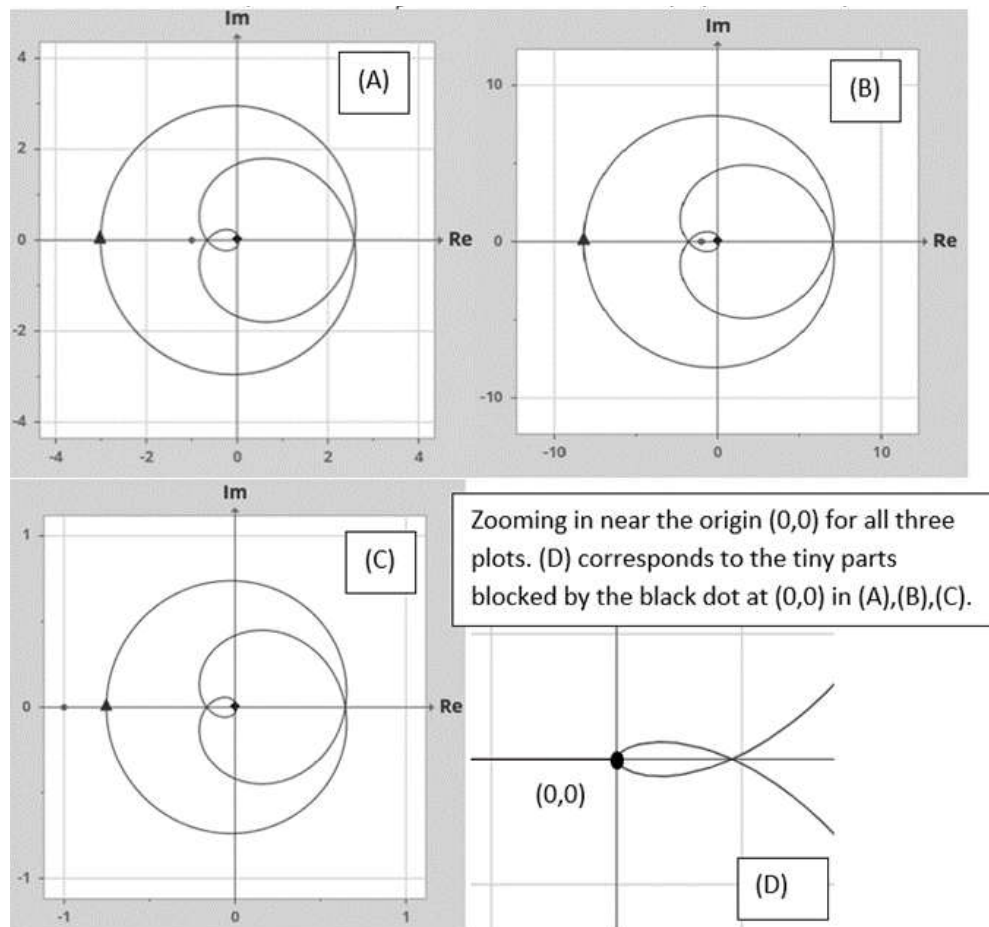

Figure J.5: The three Nyquist plots.
The following Nyquist plots (A), (B), (C) in Fig. J.5 are obtained for the same process $L(s)$ with different P-controller parameters K_p . Assume the closed loop system is unity feedback.